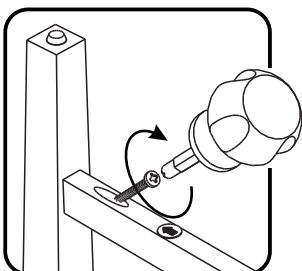

Figure 3
Orientate Stretcher (E) so Arrow label is at front of unit, then attach Stretcher (E) to Leg (B) with Wood Screw. (See Figure 3)